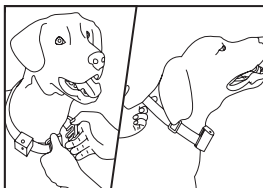

Fig. 6
- » Always leave a finger width of space under the collar (Fig. 6).